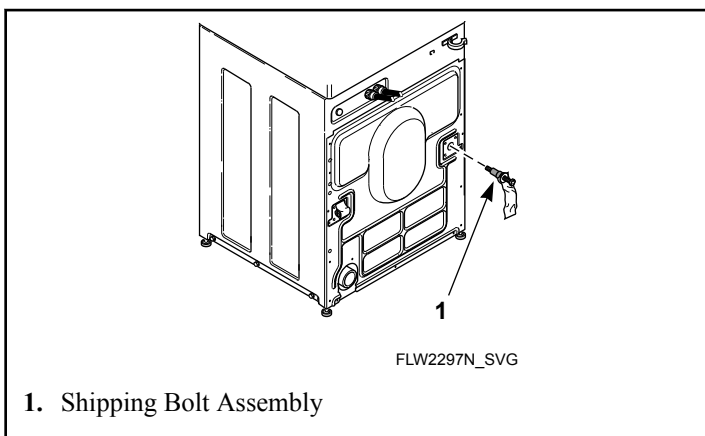

Figure 23
7. Insert shipping bolt assemblies into each shipping bolt hole. Refer to *Figure 23*.